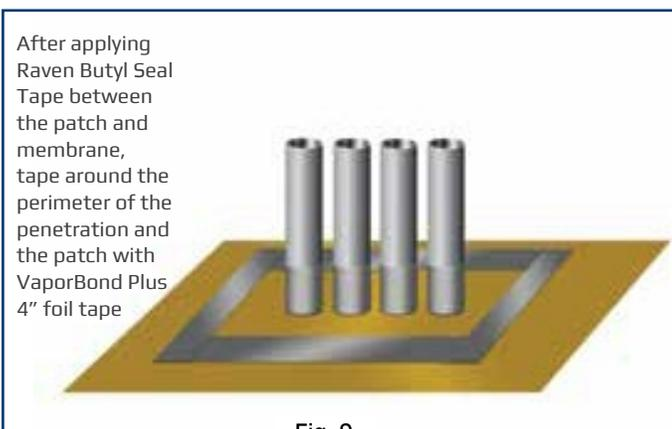
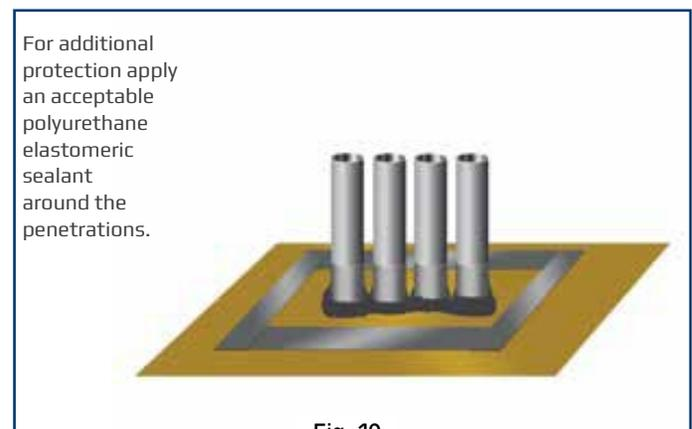

Fig. 9
Fig. 10
- E. After applying Butyl Seal Tape between the patch and membrane, tape around each of the penetrations and the patch with VaporBond Plus 4" foil tape. (Fig. 9) For additional protection apply an acceptable polyurethane elastomeric sealant around the penetrations. (Fig. 10)